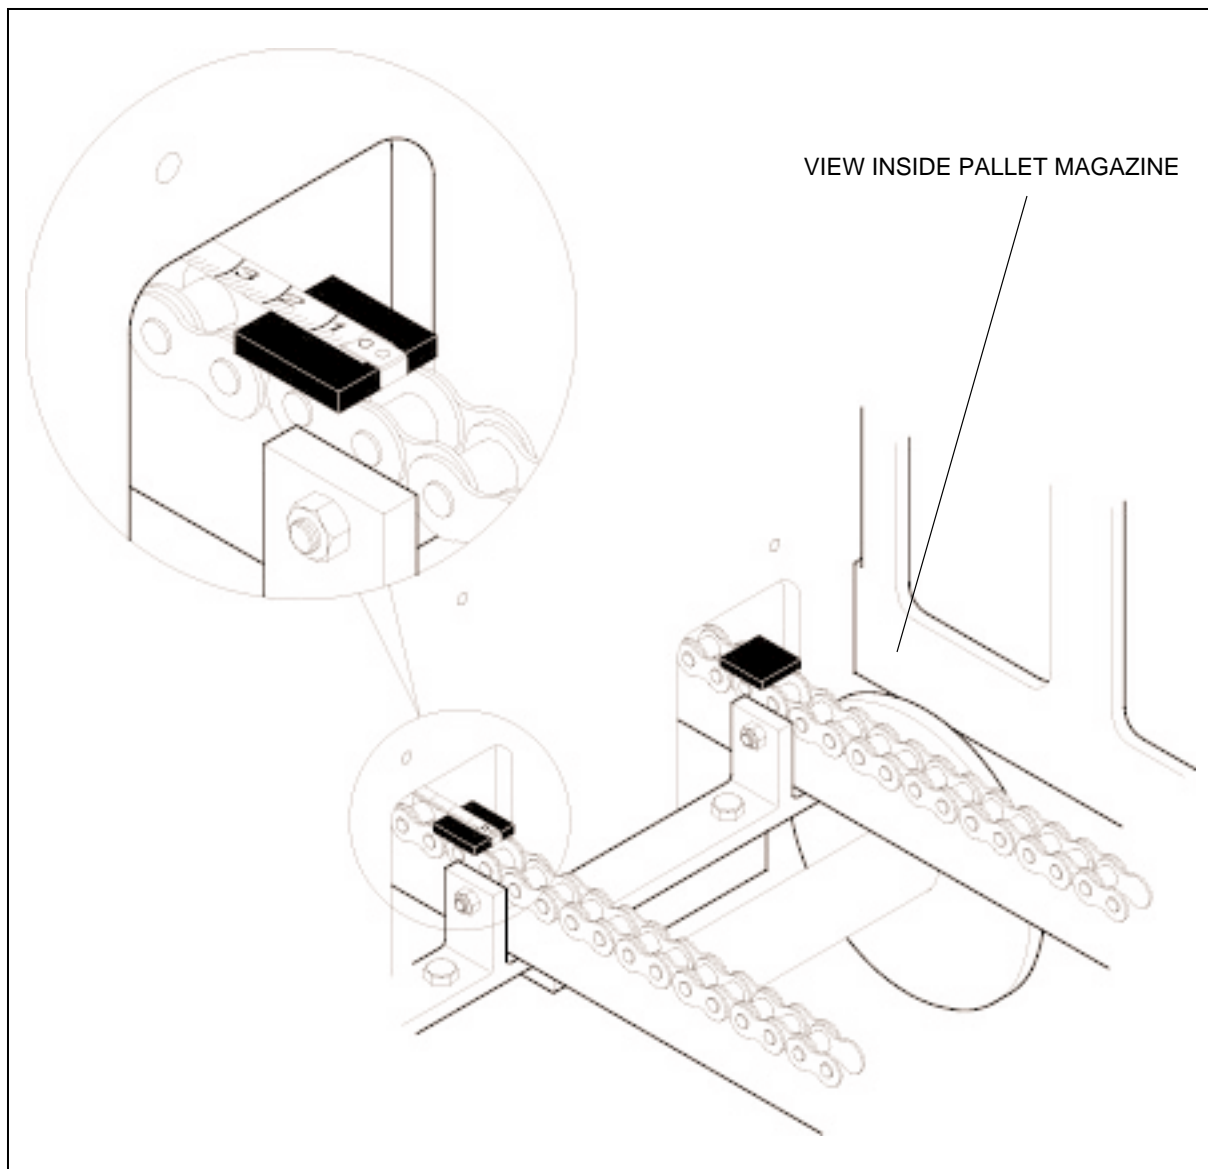

Figure 4.56 MEASURING DISTANCE FROM REAR OF PALLET MAGAZINE TO A CHAIN LUG
- 4.4.17 Measure and record the distance from the rear of the pallet magazine to the front of a chain lug on the pallet moving chain (see figure 4.56). Refer to section 6, "*Timing the pallet feeder*".